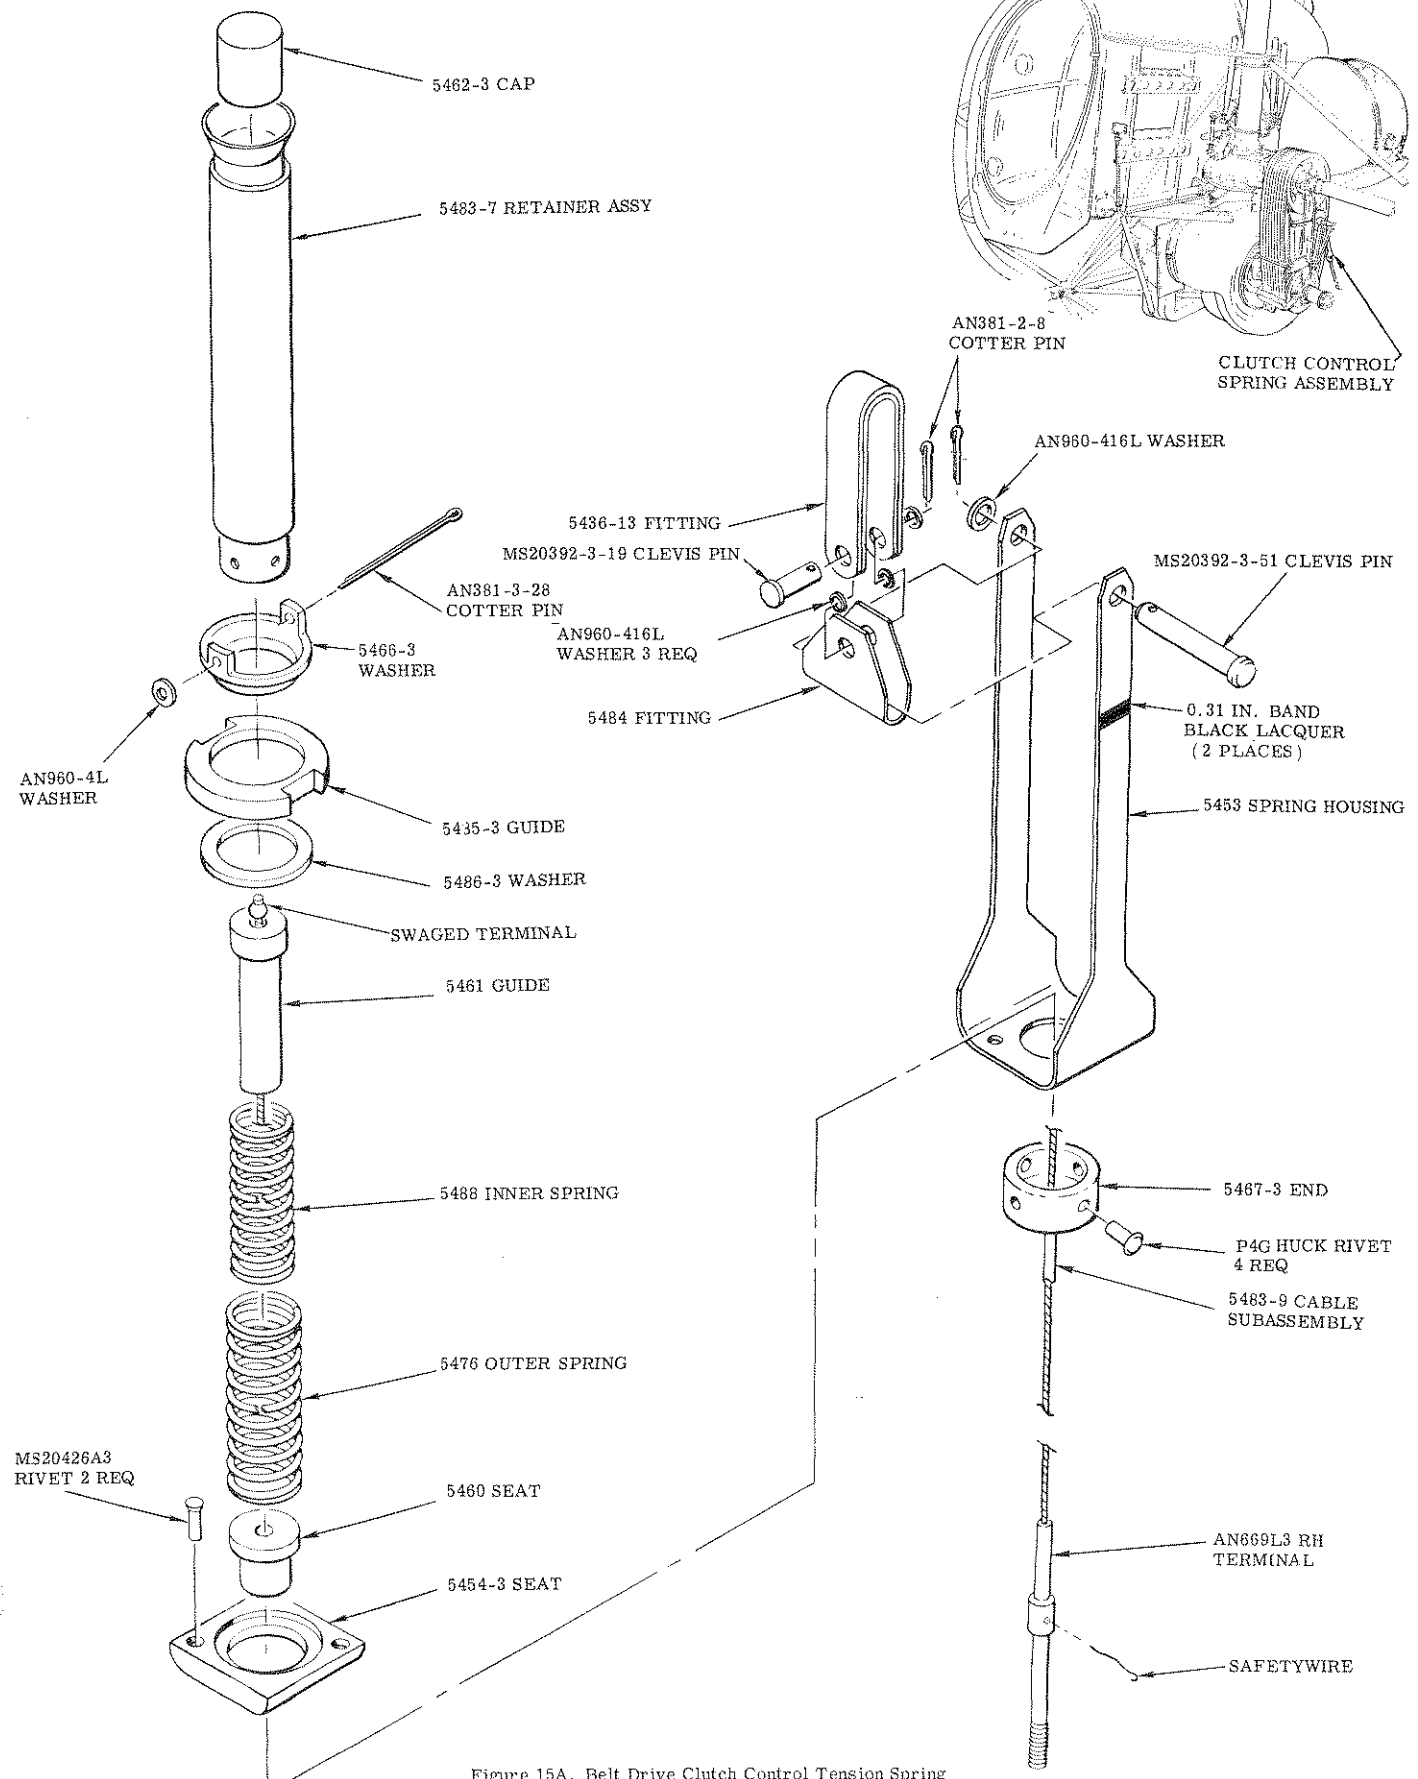

Figure 15A. Belt Drive Clutch Control Tension Spring
- (1) Position clutch engagement control, or clutch control switch, to DISENGAGED position.
- (2) Remove cotter pin, washer and small clevis pin securing attachment strap and fitting to spring housing. (Refer to Figure 15A)
- (3) Remove cotter pin, washer and large clevis pin from spring housing.
- (4) Remove large cotter pin, washer, and spacers (where installed), from ears of washer.
ADD: New Figure 15A. Belt Drive Clutch Control Tension Spring.